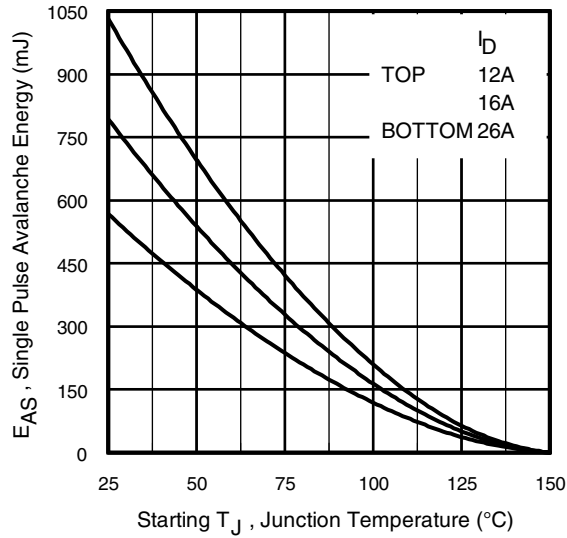

Fig 14a. Maximum Avalanche Energy vs. Drain Current
- ② Starting $T_J = 25^\circ\text{C}$, $L = 1.7\text{mH}$, $R_G = 25\Omega$, $I_{AS} = 26A$, (See Figure 14a)
- ③ $I_{SD} \leq 26A$, $di/dt \leq 719A/\mu s$, $V_{DD} \leq V_{(BR)DSS}$, $T_J \leq 150^\circ\text{C}$.
④ Pulse width $\leq 300\mu s$; duty cycle $\leq 2\%$.
⑤ $C_{oss\ eff.}$ is a fixed capacitance that gives the same charging time as C_{oss} while V_{DS} is rising from 0 to 80% V_{DSS} .